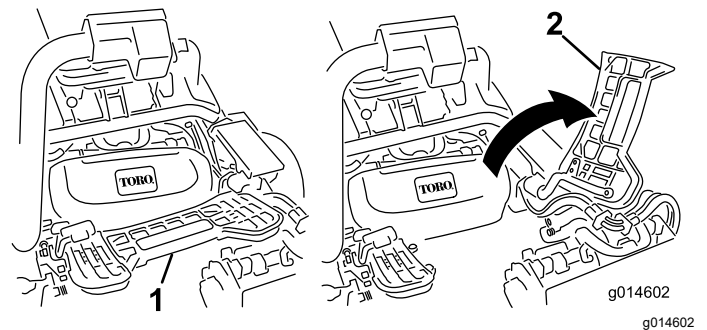

Figure 52
1. Lift up on the footrest and swing it open, allowing access to the center cutting unit position (Figure 52).